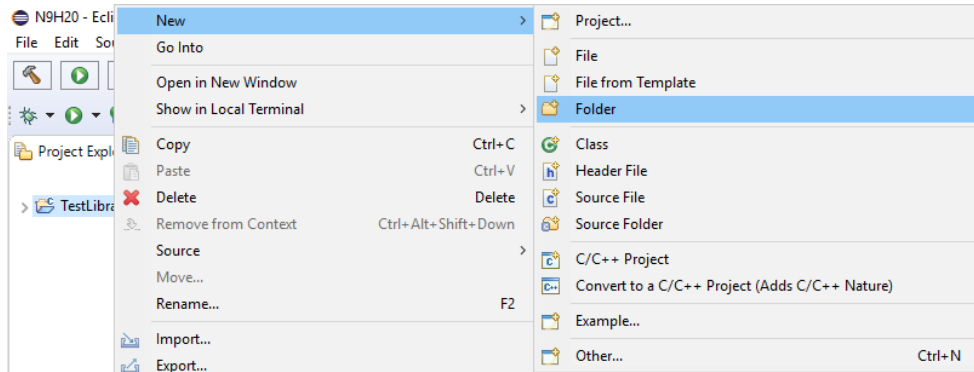
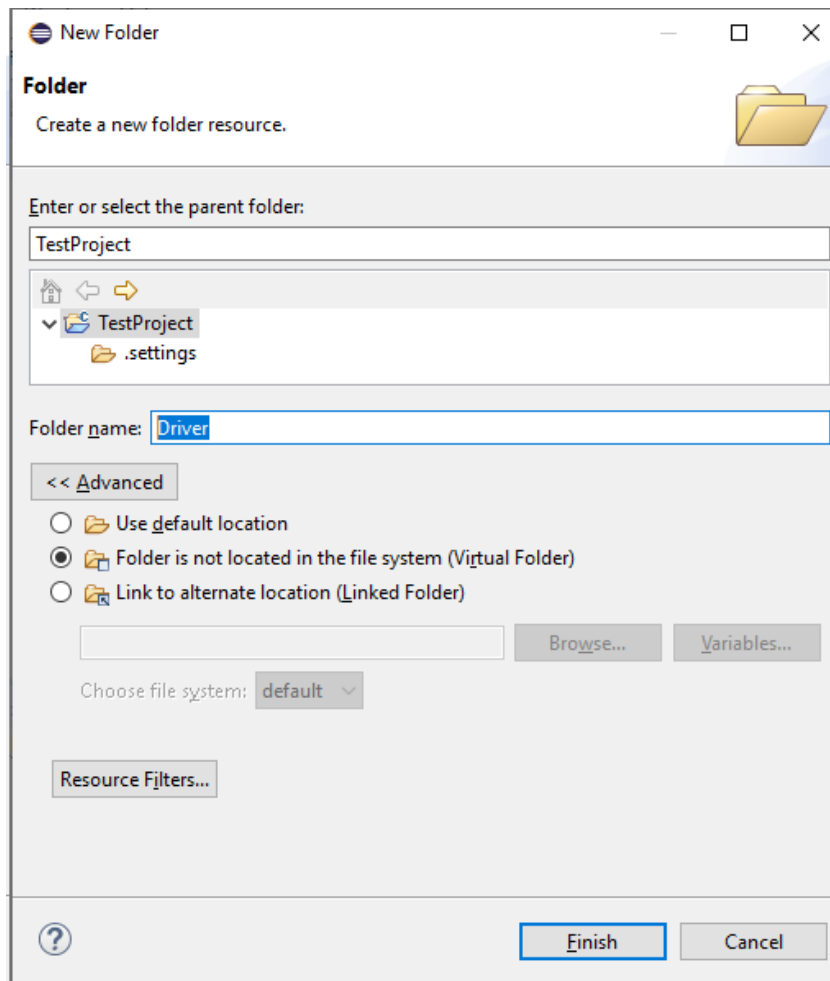

Figure 2-14 Setup New folder
Figure 2-15 Setup New Folder Name
5. Setup a new folder and given folder name “Driver” in Virtual Folder as shown in Figure 2-14 and Figure 2-15, respectively.